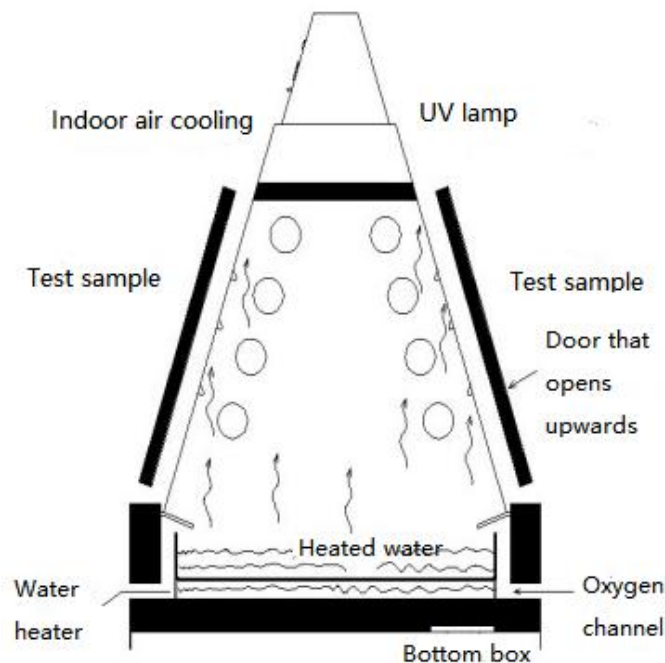

Figure 3
4. The overall structure of the equipment ----- (see Figure 3)